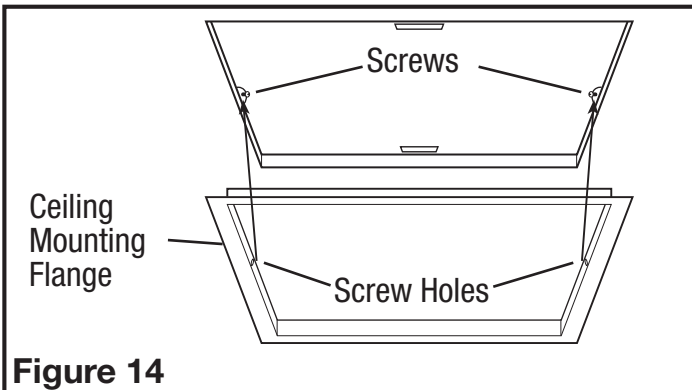

Figure 14
NOTE: If the mounting flange is installed on the fan housing, remove the two screws that connect the ceiling mounting flange to the housing and set aside (Figure 14).
5. Install the ceiling mounting flange to cover any gaps which exist between the housing and the finished ceiling. Remove the two screws that connect the ceiling mounting flange to the housing. Put sealant (not provided) on inside edge of the ceiling mounting flange to ensure that the flange is sealed to the ceiling. Line up the screw holes in the ceiling mounting flange with the screw holes on the inside of the housing and press flange in place so it is tight against the ceiling. Reinstall ceiling flange mounting screws inside the housing (Figure 14).